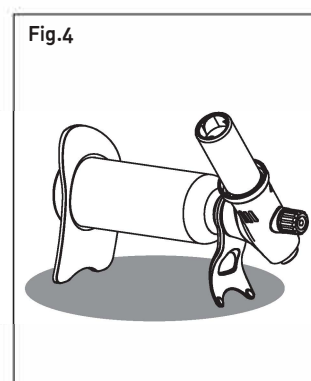

Fig.4
- 2.6 **Safety Stand** for better stability and multiple angles use.(fig.4)